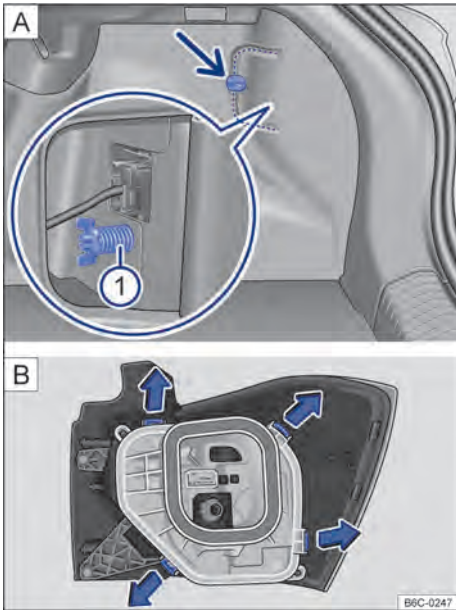
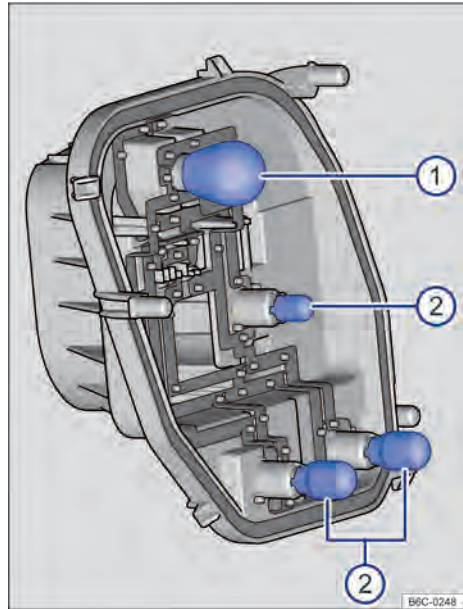

Fig. 168 (A) In the luggage compartment remove the cover and remove the wingbolt ① (magnifying glass) (B) Rear light: remove the bulb holder.
Fig. 169 Tail light: remove the bulbs
- ① Observe and follow the instructions on the checklist → page 198.
- ② Open the boot lid → page 69.
- ③ To open the light cover, rotate the retainer → Fig. 168 (A) (arrow).
- ④ Open the cover sideways together with the retainer.
- ⑤ Release the butterfly bolt ① (magnifying glass) and remove it while holding the tail light at the same time.
- ⑥ Carefully pull the tail light out to remove it from the bodywork → ⌚.
- ⑦ Disengage the power connector by pressing the latch and pull it in the direction of the arrow to completely remove the flashlight.
- ⑧ Place the rear light in a smooth and even surface.
- ⑨ To unlock the bulb holder, press each locking pawl → Fig. 169 (B) in the direction indicated by the arrows.
- ⑩ Carefully remove the bulb holder. ▶
- ⑪ To remove burnt-out light bulbs: → Fig. 169
- ① press the bulb against the housing and turn counterclockwise. ② pull the bulb against the housing.
- ⑫ Replace the defective bulb with a new bulb of the same type.
- ⑬ Insert new bulbs into the respective bulb housing: → Fig. 169
- ⑭ Ensure that the bulbs are properly secured in the bulb holder.
- ⑮ Insert the rear light bulb support. The locking pawls → Fig. 169 must audibly engage.
- ⑯ Fit the bulb connector.
- ⑰ Carefully fit the rear light in the bodywork housing.
- ⑱ Hold the tail light in the installation position with one hand and install the butterfly bolt with the other hand → Fig. 168 ①.
- ⑲ Reposition the cover of the lamp in its position and rotate the lock to close.
- ⑳ Close the boot lid → page 69.